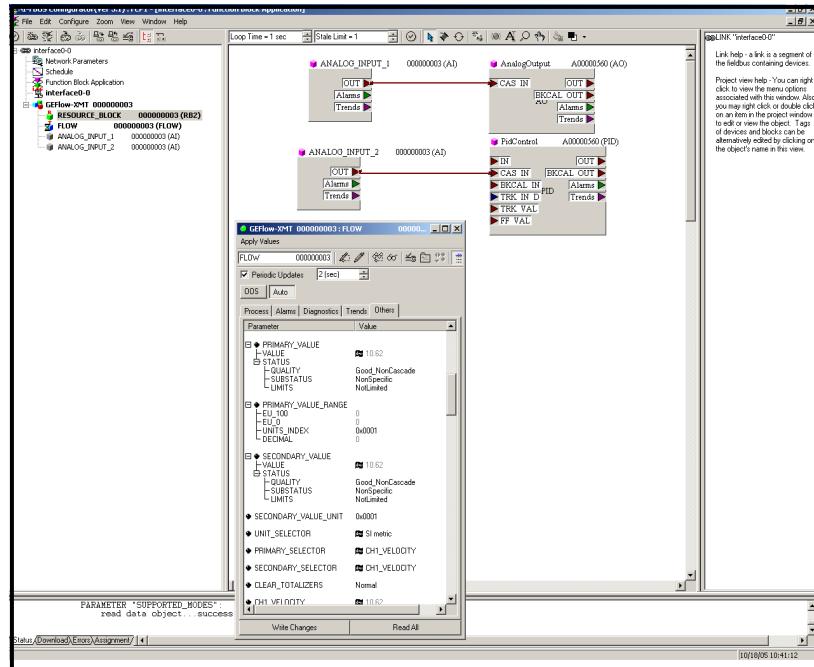

Figure 39: Configuration Utility Setup Example
Figure 39 below shows the Configuration Utility with a flowmeter on the network (Panametrics Flow-XMT).
1. Double click on the AI block for which you wish to set the units (ANALOG_INPUT_1 or ANALOG_INPUT_2 in the tree under GEFLOW-XMT; see *Figure 39 on page 106*).
1. Double click on the FLOW transducer block (in the tree under GEFlow-XMT; see *Figure 39 on page 106*).